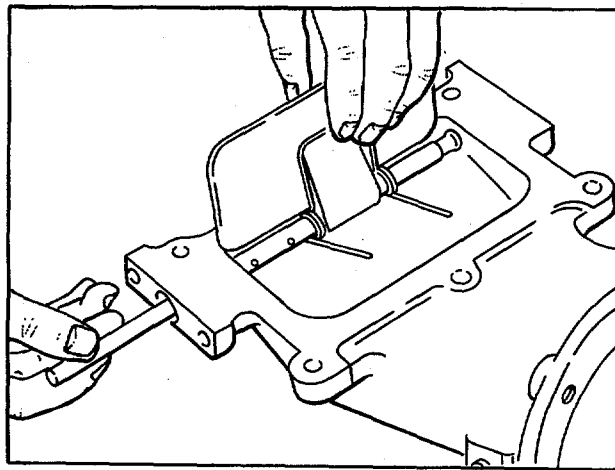

Figure 2. Installing Air Shutoff Valve Spring and Valve
4. Note the position of the air shutoff valve spring and the valve (Fig. 2). Then withdraw the shaft from the housing to release the valve and the spring. Remove the valve and spring and the seal ring from the housing.
1. Place the valve(s) and spring in position in the housing (Fig. 2) and slip the shaft in place. The shaft must extend 0.700 inch from the side of the housing where the shutdown latch is assembled.